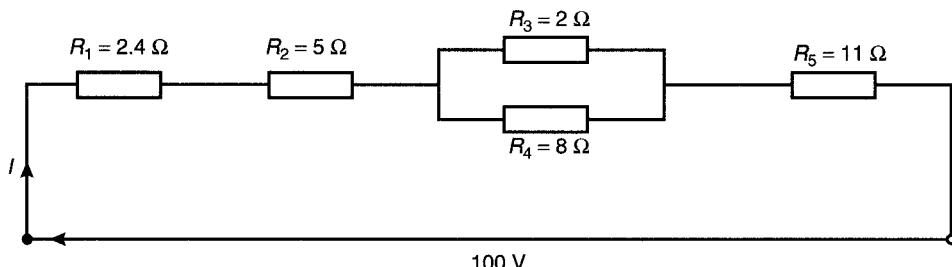

Figure A2.1
- 1 Resistances of 5Ω , 7Ω , and 8Ω are connected in series. If a $10V$ supply voltage is connected across the arrangement determine the current flowing through and the p.d. across the 7Ω resistor. Calculate also the power dissipated in the 8Ω resistor. (6)
- 2 For the series-parallel network shown in Fig. A2.1, find (a) the supply current, (b) the current flowing through each resistor, (c) the p.d. across each resistor, (d) the total power dissipated in the circuit, (e) the cost of energy if the circuit is connected for 80 hours. Assume electrical energy costs $7.2p$ per unit. (15)
- 3 The charge on the plates of a capacitor is $8mC$ when the potential between them is $4kV$. Determine the capacitance of the capacitor. (2)
- 4 Two parallel rectangular plates measuring 80 mm by 120 mm are separated by 4 mm of mica and carry an electric charge of $0.48\mu C$. The voltage between the plates is 500 V . Calculate (a) the electric flux density (b) the electric field strength, and (c) the capacitance of the capacitor, in picofarads, if the relative permittivity of mica is 5. (7)
- 5 A $4\mu F$ capacitor is connected in parallel with a $6\mu F$ capacitor. This arrangement is then connected in series with a $10\mu F$ capacitor. A supply p.d. of 250 V is connected across the circuit. Find (a) the equivalent capacitance of the circuit, (b) the voltage across the $10\mu F$ capacitor, and (c) the charge on each capacitor. (7)
- 6 A coil of 600 turns is wound uniformly on a ring of non-magnetic material. The ring has a uniform cross-sectional area of 200 mm^2 and a mean circumference of 500 mm . If the current in the coil is 4 A , determine (a) the magnetic field strength, (b) the flux density, and (c) the total magnetic flux in the ring. (5)
- 7 A mild steel ring of cross-sectional area 4 cm^2 has a radial air-gap of 3 mm cut into it. If the mean length of the mild steel path is 300 mm , calculate the magnetomotive force to produce a flux of 0.48 mWb . (Use the B-H curve on page 71) (8)